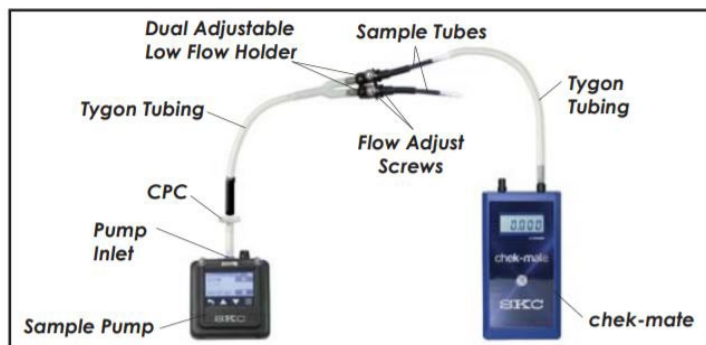

Figure 2. Multiple-tube flow rate verification train with Pocket Pump TOUCH (constant flow mode)
3. Verifying the Flow Rate — Figure 2